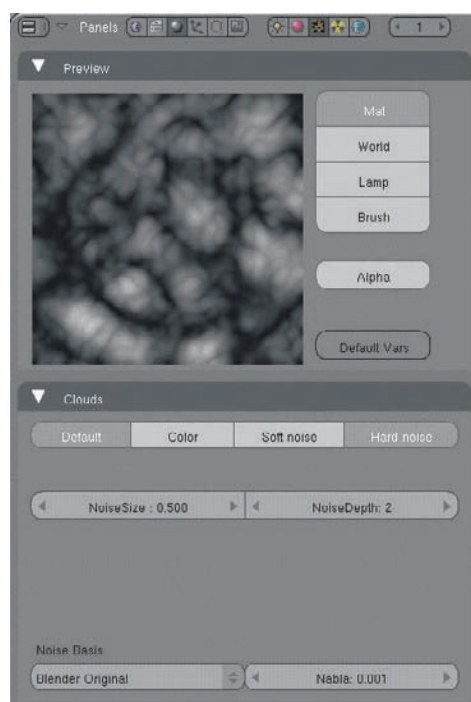

Figure 1.12 A hard Clouds texture for Mix
6. Add a new Input node in the same way you did for the previous two material nodes, except this time select Texture instead of Material for the node type. In the drop-down menu on the node, select Add New to create a new texture, and name the texture **Mix**. Make this texture a hard Clouds texture with the values set as shown in Figure 1.12. This texture will provide a pattern of black-and-white (that is, 0.0 and 1.0) to replace the uniform 0.50 that's the default for the Mix node.